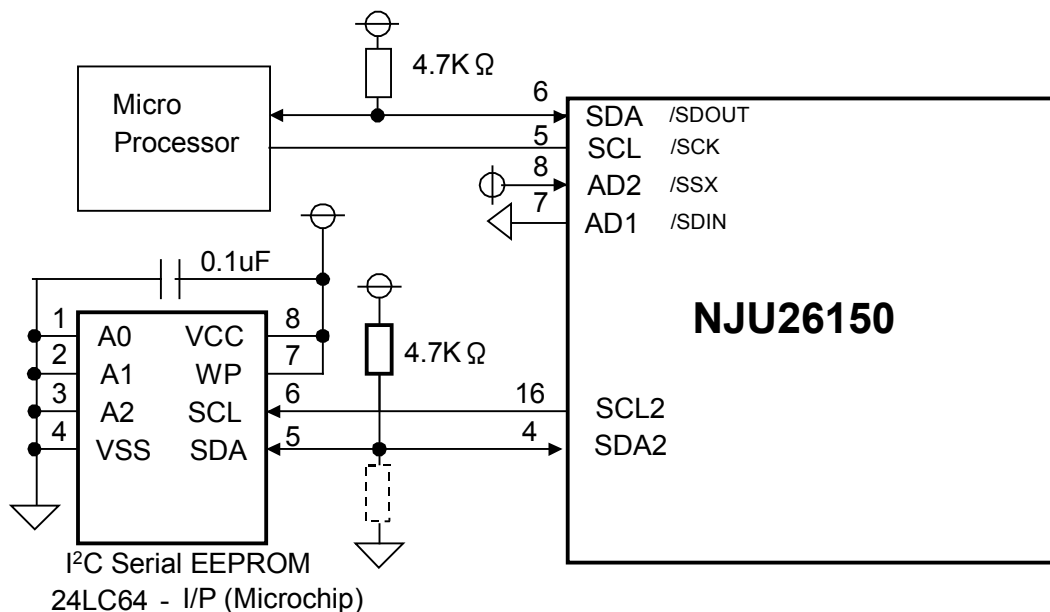
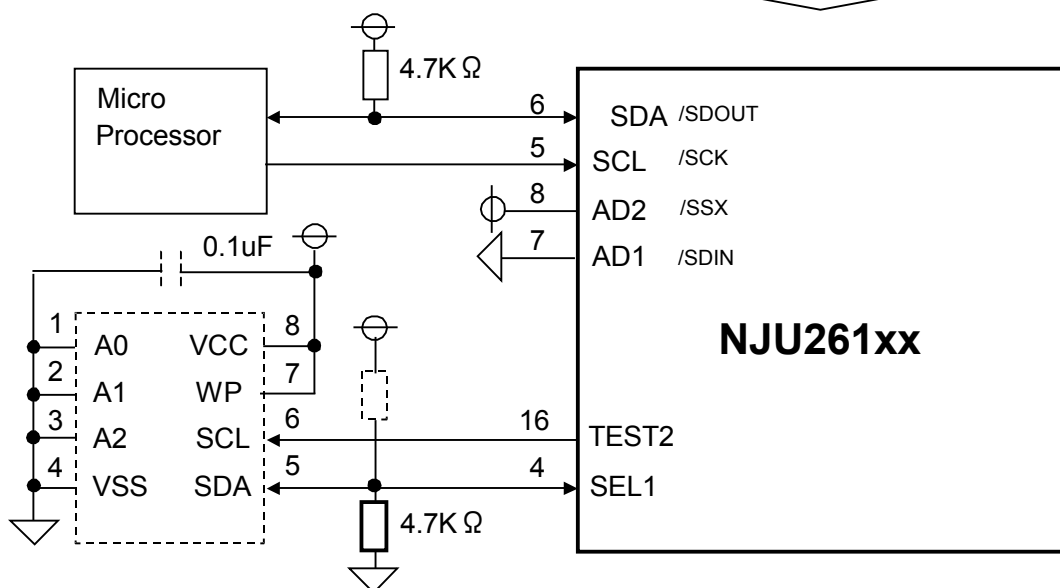

Fig. 3a NJU26150 application on circuit diagram
Fig. 3b NJU261xx application on circuit diagram
The application circuit diagram of the NJU26150 is shown in Fig.3a and Fig.3b.
- The NJU26150 and EEPROM realize the function of the NJU261xx shown in Fig.3a. The program exists in EEPROM. The program is downloaded into the NJU26150. The NJU26150 pin 4 (SDA2) should be connected to VDD through a 4.7K-ohm resistor.
- The NJU261xx pin connections are shown in Fig.3b. The EEPROM is deleted. In case of selecting I²C, the NJU261xx pin 4 (SEL1) should be connected to GND through a 4.7K ohm resistor.